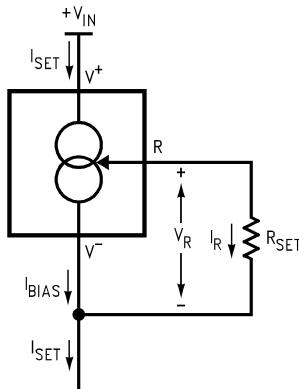

Figure 13. Basic Current Source
- (1) Unless otherwise specified, tests are performed at $T_j = 25^\circ C$ with pulse testing so that junction temperature does not change during test
- (2) Set current is the current flowing into the V^+ pin. For the Basic 2-Terminal Current Source circuit shown in Figure 13, I_{SET} is determined by the following formula: $I_{SET} = 67.7 \text{ mV}/R_{SET}$ (@ $25^\circ C$). Set current error is expressed as a percent deviation from this amount. I_{SET} increases at $0.336\%/\text{ }^\circ C$ @ $T_j = 25^\circ C$ ($227 \mu\text{V}/\text{ }^\circ C$).
- (3) I_{SET} is directly proportional to absolute temperature ($\text{ }^\circ K$). I_{SET} at any temperature can be calculated from: $I_{SET} = I_0 (T/T_0)$ where I_0 is I_{SET} measured at T_0 ($\text{ }^\circ K$).
The total current through the LM134 (I_{SET}) is the sum of the current going through the SET resistor (I_R) and the LM134's bias current (I_{BIAS}), as shown in Figure 13.